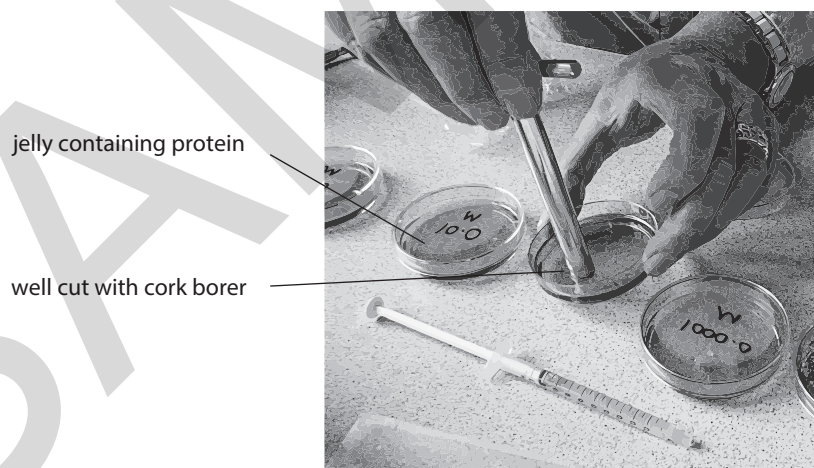

Figure 3.6
- 2 Use a cork borer to cut one small, neat well in the agar jelly near the centre of each Petri dish (Figure 3.6). Try not to touch the rest of the jelly with your fingers as you do this.